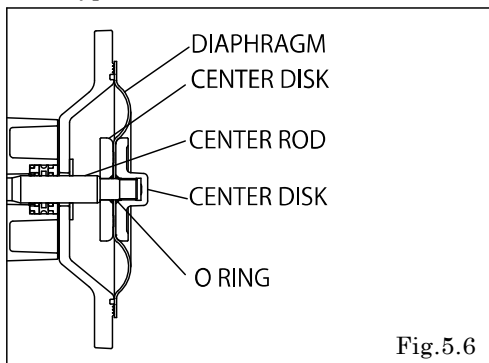

Fig.5.6
- For the model with PTFE diaphragm, put the Orings into both side of the diaphragms. (cf. Fig.5.6).